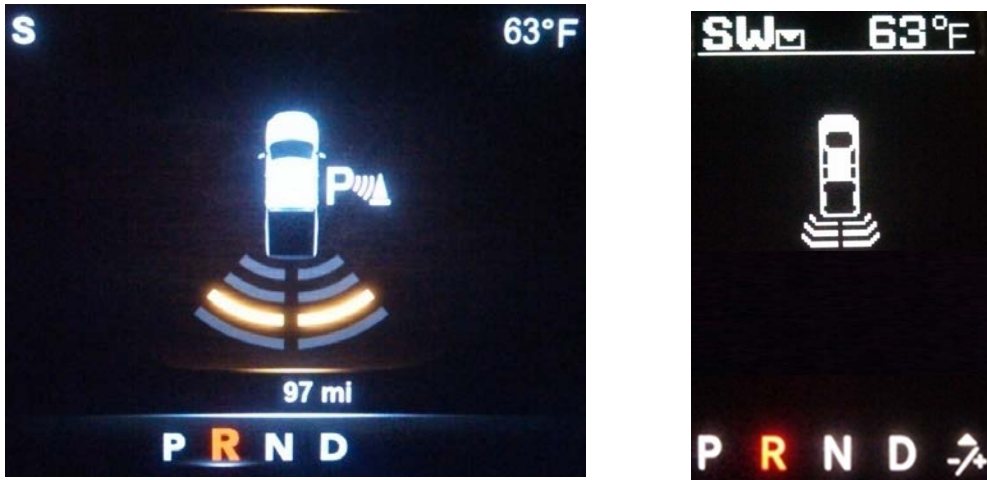

Figure 14: Cluster Graphic with object detected
If the system detects obstructions behind the vehicle (audio chime(s) and bar(s) behind vehicle displayed in instrument cluster **Figure 14**), verify that there are no obstructions within 2.5 meters of the rear of the vehicle. If no obstructions are present, review sensor installation to ensure sensors are installed within the guidelines provided.
2. With the vehicle back in park, place a sizable object 1 meter away from the sensors centered behind the vehicle. The minimum object size is a 1 meter high pole 10 cm in diameter. With an object now behind the vehicle, park brake on, put the vehicle in reverse, and confirm that the ParkSense system detects the object upon entering reverse gear. The graphic in the instrument cluster should now have bars behind it, **Figure 14**, and an audible chime should be heard.